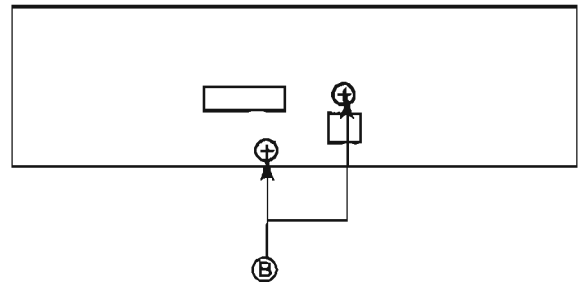

Fig. 2
(3) Measurement of laser diode drive current (Fig.2)
Cut the jump wire (B107) and add a 1Ω resistor. (See the following Fig.2)
(Fig.2)